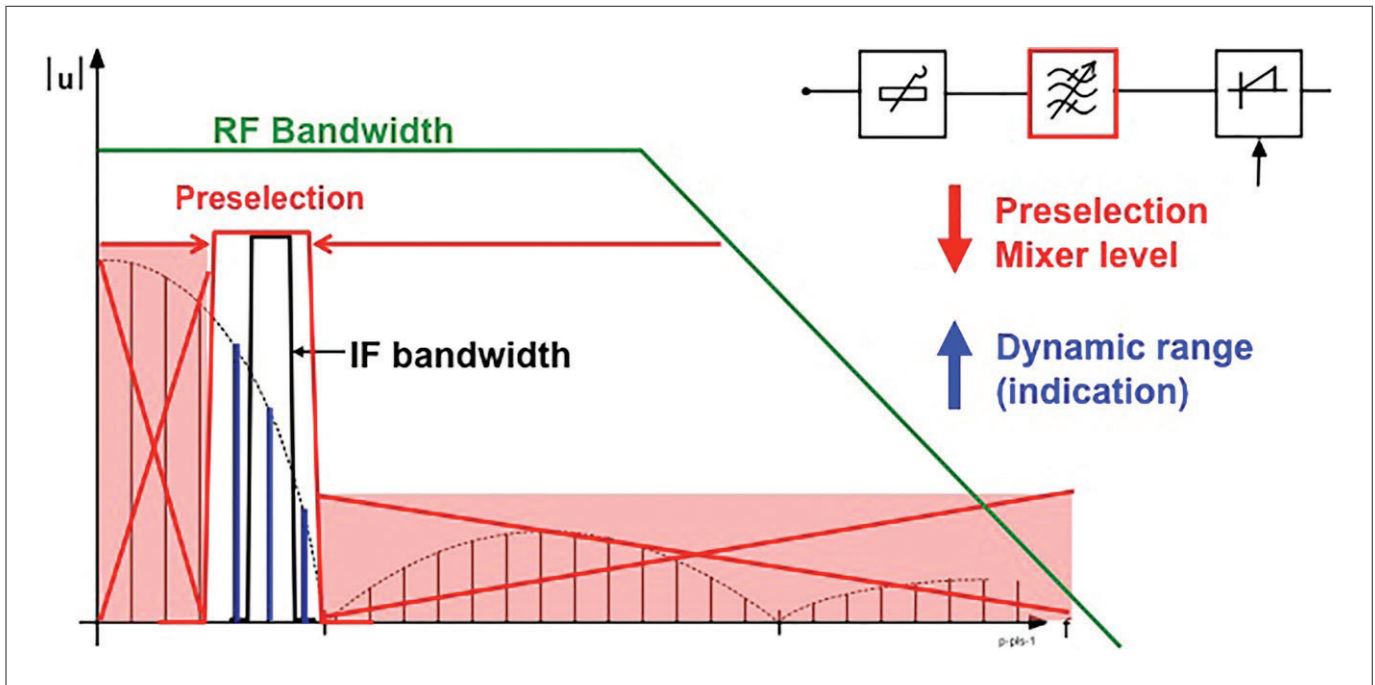

Figure 3: Principle of preselection
**amplitude signals** or strong broadband signals with a bandwidth that is much wider than the instrument’s measurement bandwidth, see Figure 3.